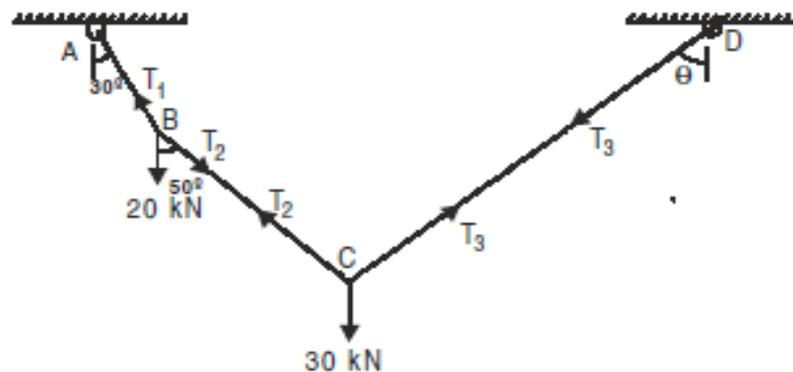

Fig 1.
- a) A wire rope is fixed at two points A and D as shown in Fig. 1. Two weights 20 kN and 30 kN are attached to it at B and C, respectively. The weights rest with portions AB and BC inclined at angles 30° and 50° respectively, to the vertical as shown in figure. Find the tension in the wire in segments AB, BC and CD and also the inclination of the segments CD to the vertical.